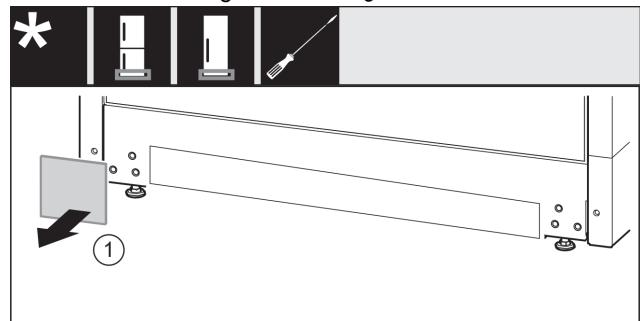

Fig. 33
- Take off the cover. *Fig. 33 (1)*